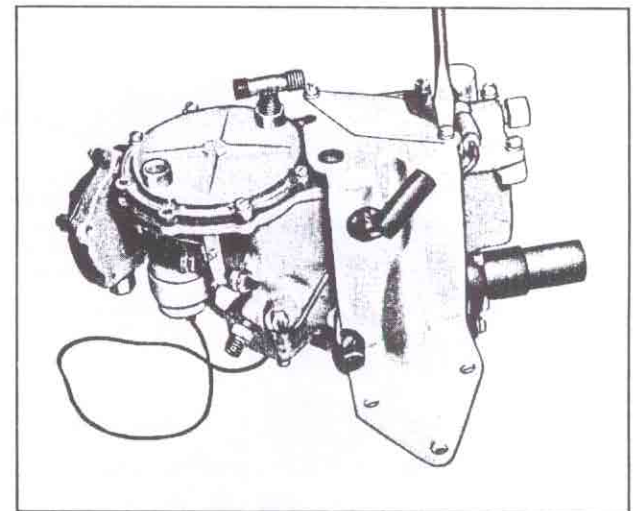

Fig. 157—Installing Fuel Meter Mounting Bracket
23. Position two spacers on bowl vent cover, position mounting bracket (fig. 157) and cover plate on spacers, and secure with two screws and lockwashers. Attach bracket to side of fuel meter with two large screws and lockwashers to complete assembly of fuel meter.